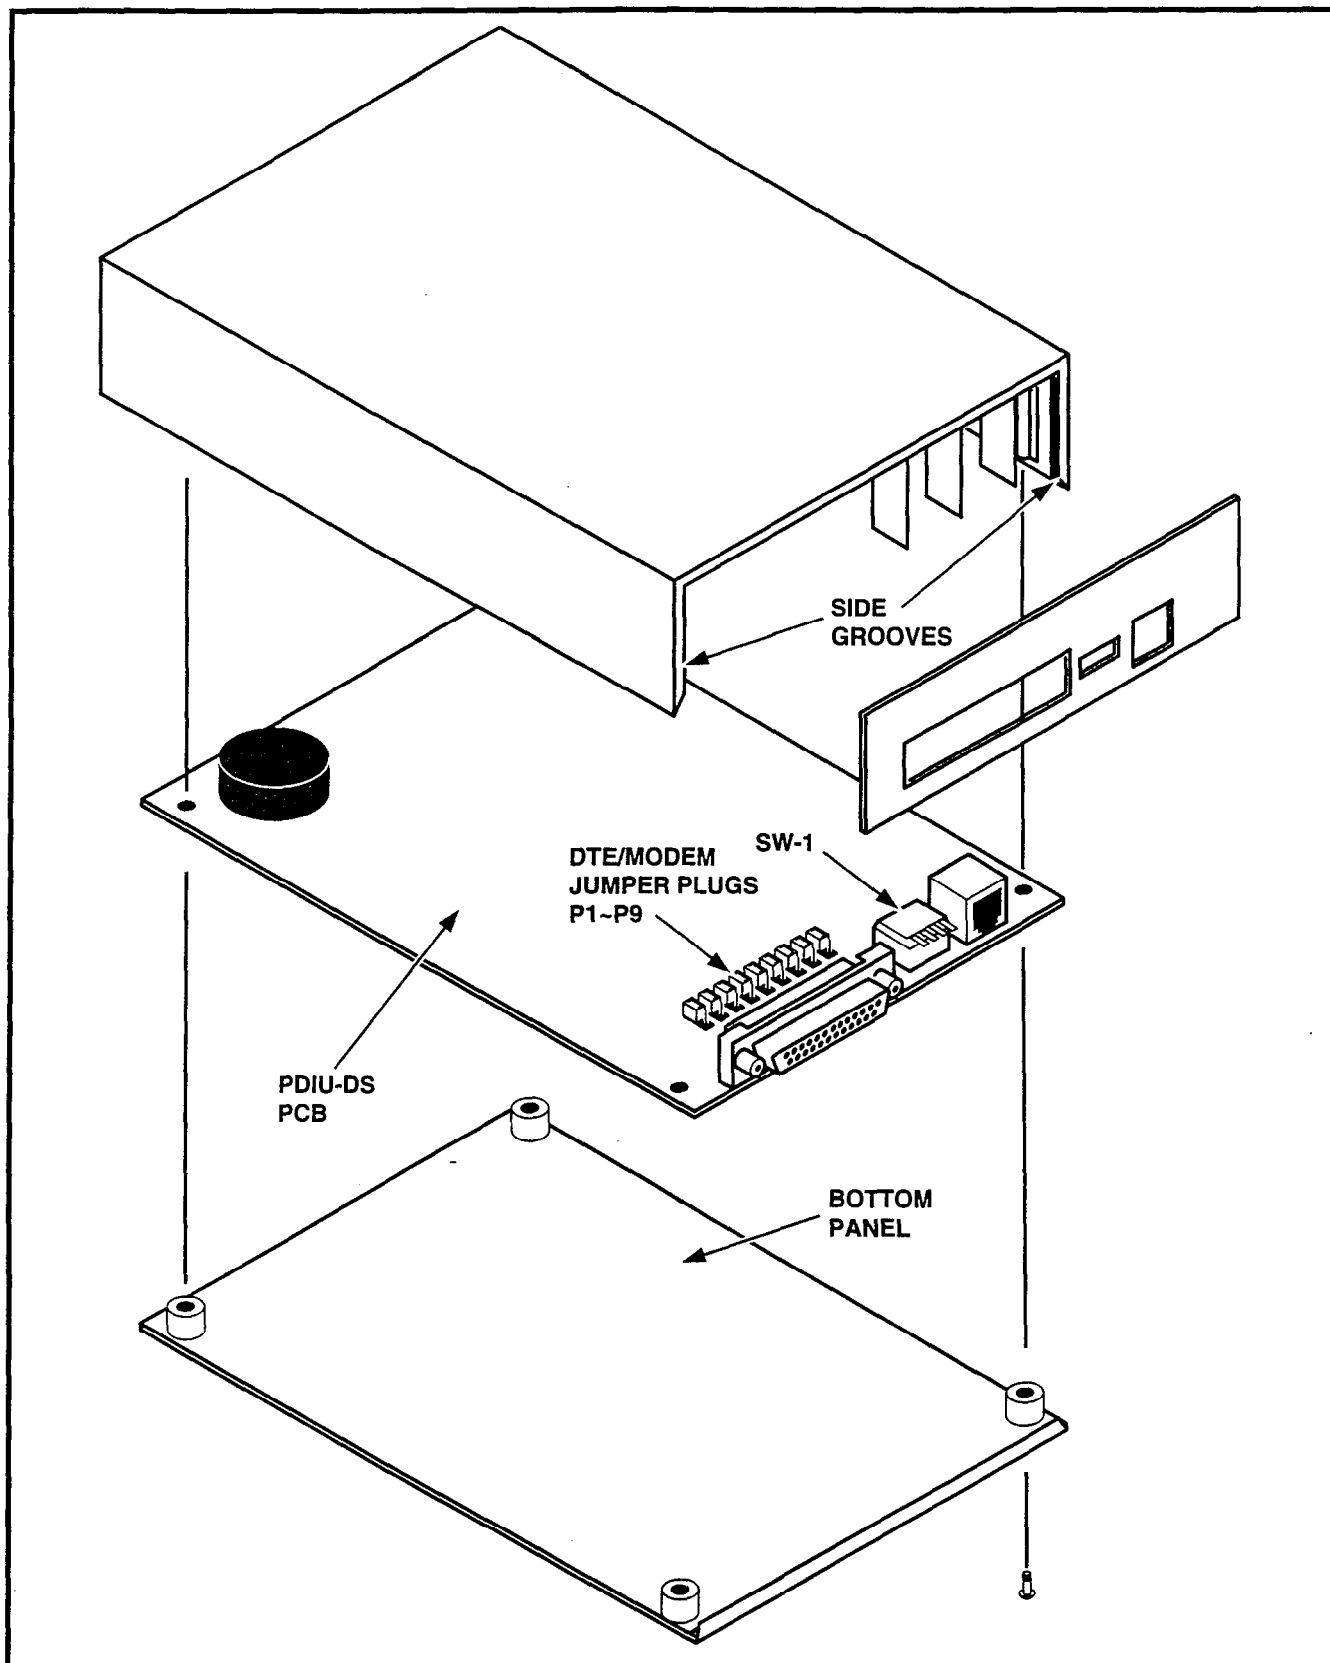

FIGURE 4-61—PDIU-DS DISASSEMBLY/ASSEMBLY DIAGRAM
6.171 To set the jumper plugs **P1 ~ P9** on the sub-assembly inside the PDIU-DS for DCE or DTE operation, the PDIU-DS must be disassembled (Figure 4-61). Disassemble the PDIU-DS in accordance with the steps in Paragraph **6.172**.